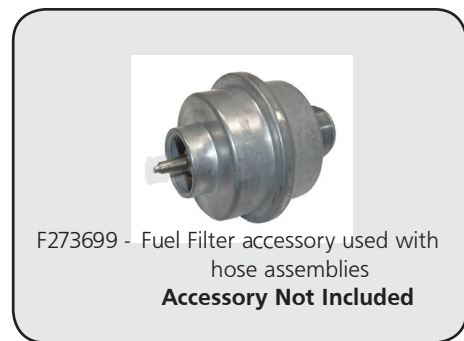

Figure 1
- **NOTE: THIS HEATER MAY BE OPERATED WITH (1) OR (2) DISPOSABLE 1 LB. PROPANE CYLINDERS OR WITH A REMOTE REFILLABLE CYLINDER(S) MAX. 20 LBS USING (1) OR (2) F273701, F273702 OR F272702 HOSE ASSEMBLIES WITH FUEL FILTERS (F273699) (Fig. 1) ON EACH HOSE ASSEMBLY. HOSE NO. F273704 BUDDY SERIES HOSE, FUEL FILTER NOT REQUIRED. IT MAY ALSO BE OPERATED WITH (1) F271802 HOSE ASSEMBLY CONNECTED TO A REGULATED (11" W.C.) PROPANE SOURCE OR (1) F271803 HOSE ASSEMBLY WITH 11" REGULATOR WITH ACME NUT.**
1. Make sure five-position Control Knob is in "OFF" position. See Figure 1.